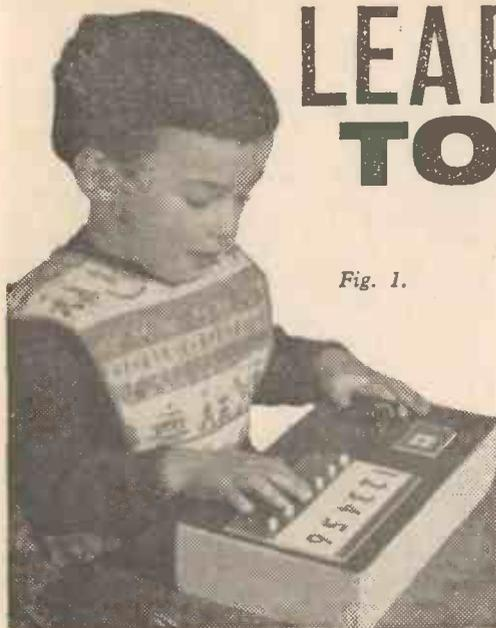

Fig. 1.
**C**HILDREN in the infant school—the five to seven year olds—have a difficult time in learning the basics in arithmetic. For example when we see the numeral 4 we know that it is four and associate it with four individual items. But to the child just beginning to count the symbol 4 is meaningless and hence the use of the box shown in Fig. 1.
The box shows the child a number of dots—domino style—and a row of numbers, one to six. By pressing the correct button linking up the number of dots with the appropriate symbol then a light comes on. In this case (Fig. 1) the child sees four dots in the Perspex covered window and has pressed the button under the symbol 4. This being the correct response the light above the Perspex window glows showing the youngster that it has made a correct choice. If the wrong button is pressed then of course no light is seen. The children enjoy this number-recognition game and at the same time remember and the first hurdle in “learning to figure” is overcome.